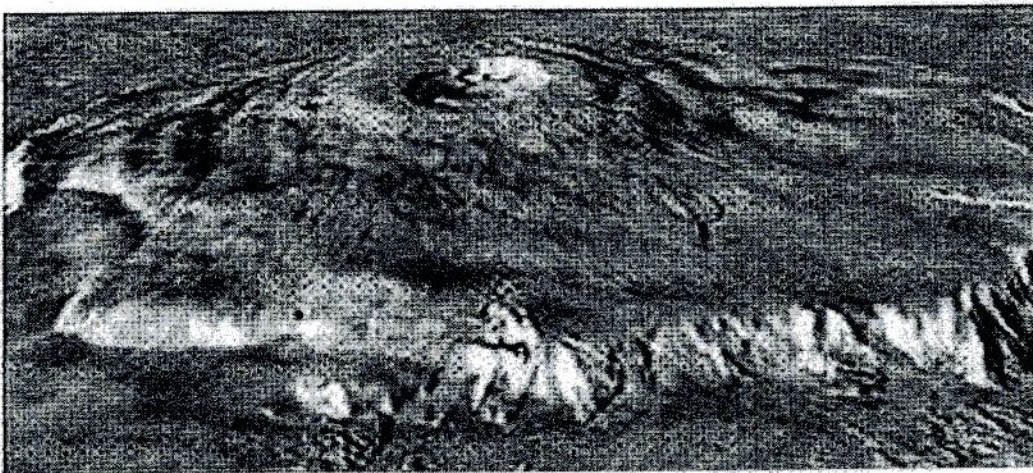

Fig. 10.2
- (ii) Everest is the highest mountain on Earth. It is about 8.8 km high. On the planet Mars the highest point is the volcano Olympus Mons, shown in Fig. 10.2, which is about 22 km high.